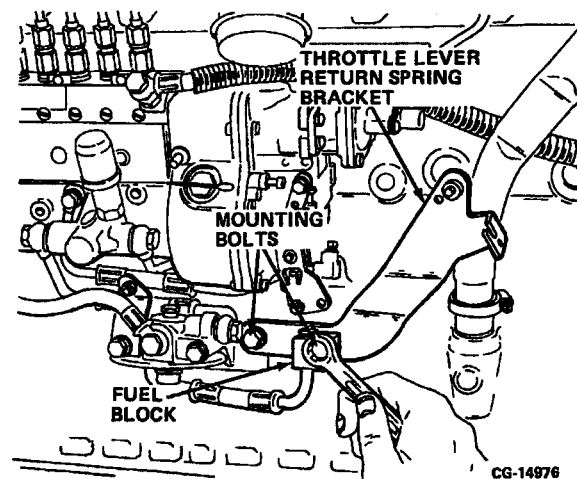

Figure 11.46. Install Throttle Lever Return Spring Bracket
10. Mount the throttle lever return spring bracket to the crankcase using the two mounting bolts and washers. Refer to Figure 11.46.